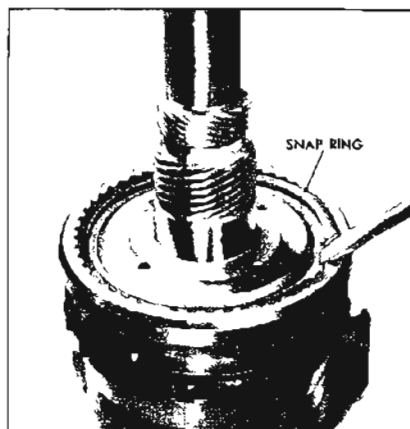

Figure 5-676
8. Install the output shaft to output carrier snap ring. See Figure 5-676.